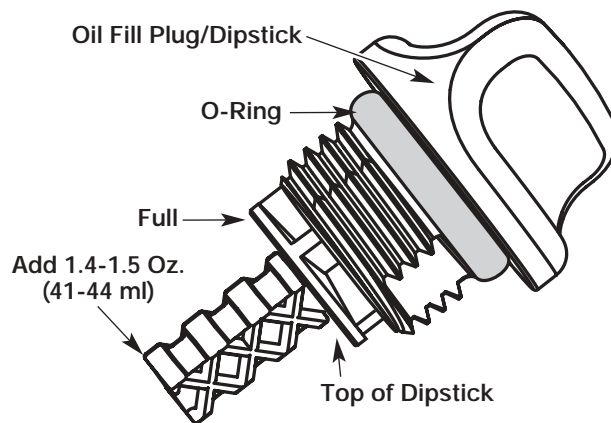

Figure 40
5. Remove the oil fill plug/dipstick and check the oil level. Oil should be up to the top of the dipstick. See Figure 40.